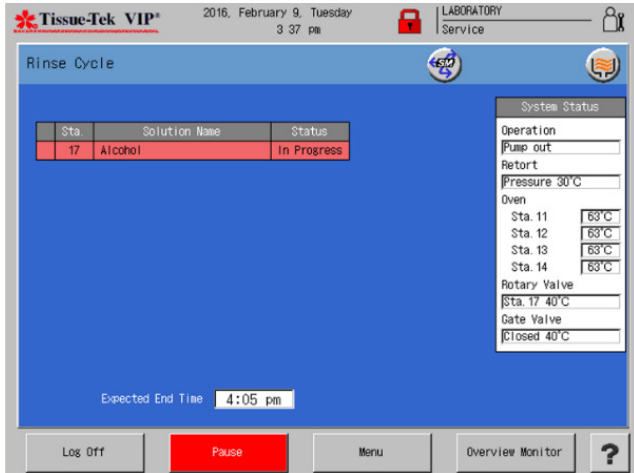

Figure 4-Z
2. Touch **Detailed Monitor** to switch the display to the Rinse Cycle Detailed Monitor Screen. The following information is displayed (Figure 4-Z).